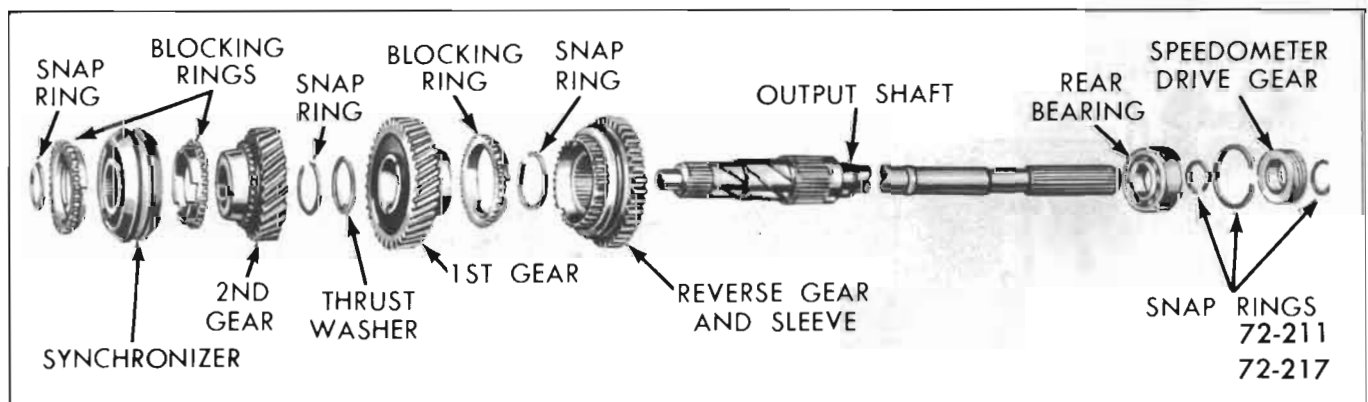

Figure 72-217—Mainshaft Exploded
7. Slide the first-reverse gear and sleeve assembly onto mainshaft with teeth of gear facing toward rear of shaft secure with snap ring. See Figure 72-217.
8. Coat tapered machine surface on first speed gear with grease. Place blocking ring on greased surface. See Figure 72-217.
notches in blocking ring with synchronizer inserts. See Figure 72-217.
13. Slide second speed gear with blocking ring and second-third speed gear synchronizer onto mainshaft. Tapered machine surface of second speed gear must be toward the front of shaft. See Figure 72-217.